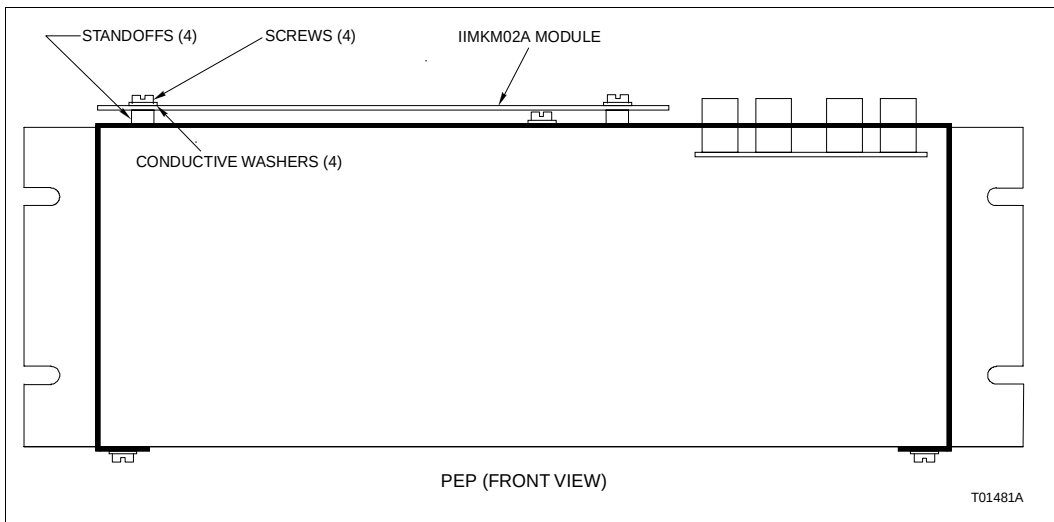

Figure PR25-4. Environmental Model IIMKM02A Module Installation
- ☐ 6. Use the bladed screwdriver to install the four screws that secure the IIMKM02A module to the PEP (Fig. PR25-4). Be sure to install the two nonconductive washers for each standoff.